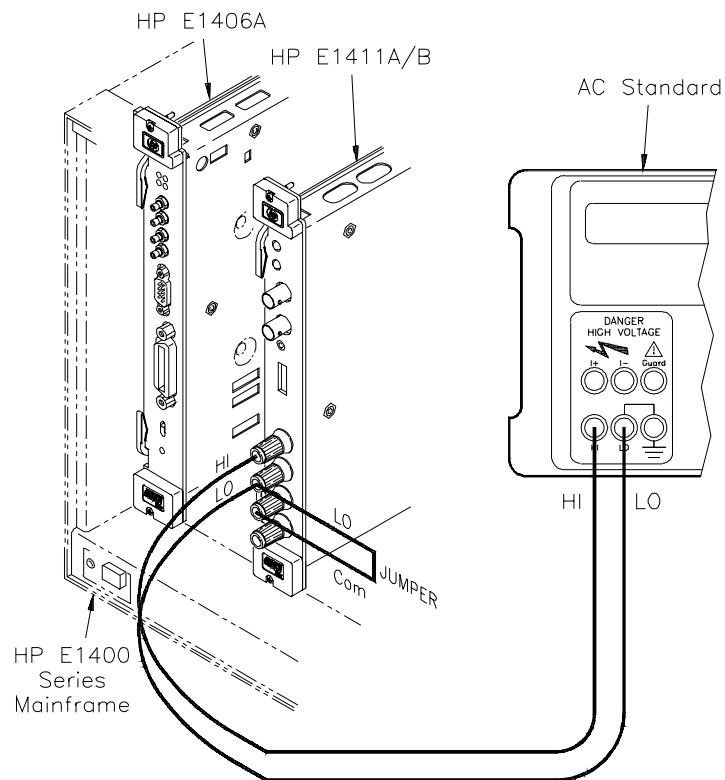

Figure 5-2. AC Voltage Adjustment Setup
1. Connect the equipment as shown in Figure 5-2